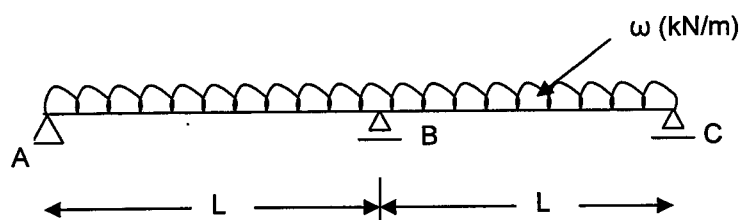

Figure 1.0/Rajah 1.0
- (b) Using methods of Consistent Deformations, find reactions of the beam shown in **Figure 1.0**, which is statically indeterminate to the first degree ($n=1$).